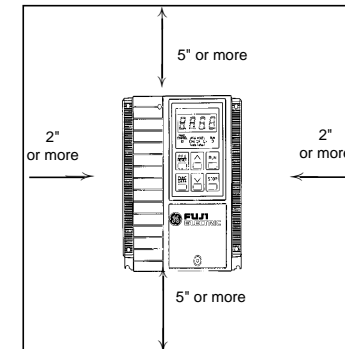

Figure 3-1. DRIVE MOUNTING CLEARANCE
- Install at a sufficient distance from other equipment, walls, or wiring ducts as shown in Figure 3-1 (these clearances are required to allow the heat generated by the Drive to escape).
NOTE: When installing two or more Drives in close proximity, allow sufficient space as shown in Figure 3-1 and install them in a horizontal row. If they must be installed in a vertical column, at least 19.7 inches (50cm) internal space must be provided between each one or a ventilation baffle should be provided to prevent the ambient temperature from rising.